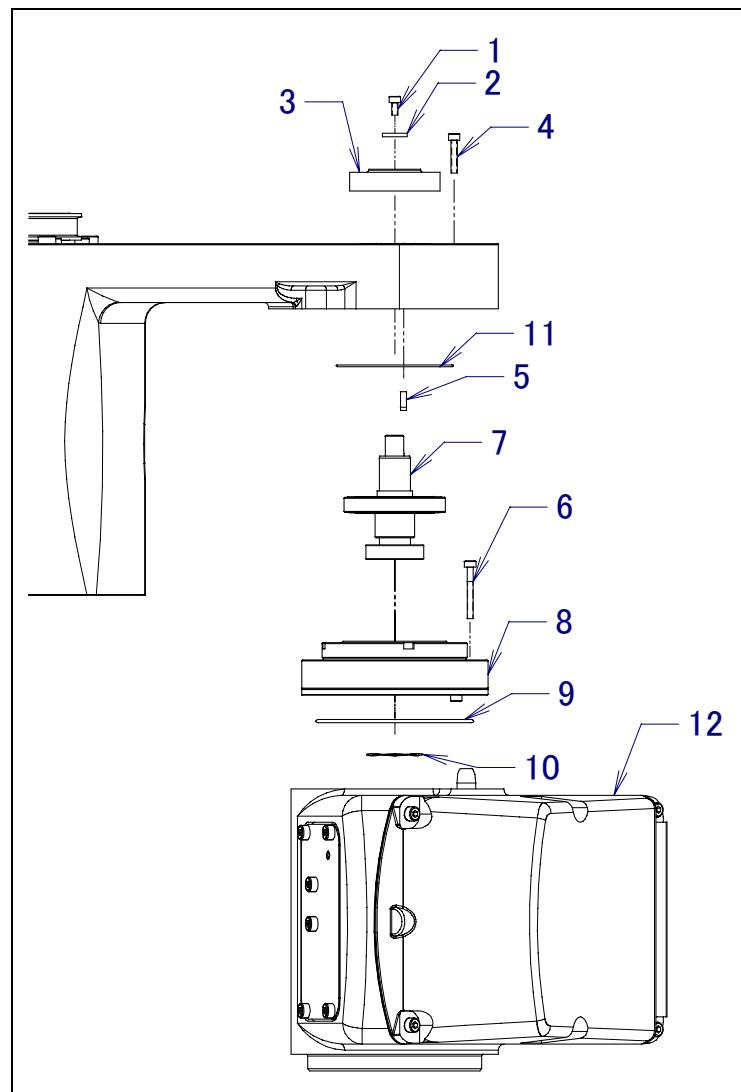

Fig. 4.7(a) Replacing J3-axis reducer
- 4 Remove seal bolt (1), washer (2) and pulley (3).
- 5 Remove bolt (4) and J2 arm to which reducer (8) attach. Note that there is a possibility that grease goes out.
- 6 Remove bolt/seal bolt (6) and reducer (8).
- 7 Replace reducer to new one and install to J3 arm unit horizontally. In this time, put wave washer (10) and O-ring (9) without forgetting.
- 9 Attach wave generator (7) to reducer.
- 10 When severe dust/liquid protection specification of LR Mate 200iC, LR Mate 200iC/5L,5H or LR Mate 200iC/5LC,5WP,5C is specified, spread sealant to the reducer referring to Fig.4.7 (b)
- 11 Attach J3 arm unit to which reducer attach to the J2 arm. In this time, put O-ring (11) without forgetting.